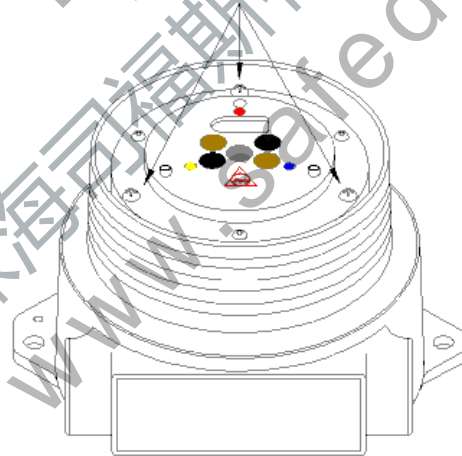

Figure 13. Loosening the captive screws
3. Loosen the electronic module's three captive screws (Figure 13).